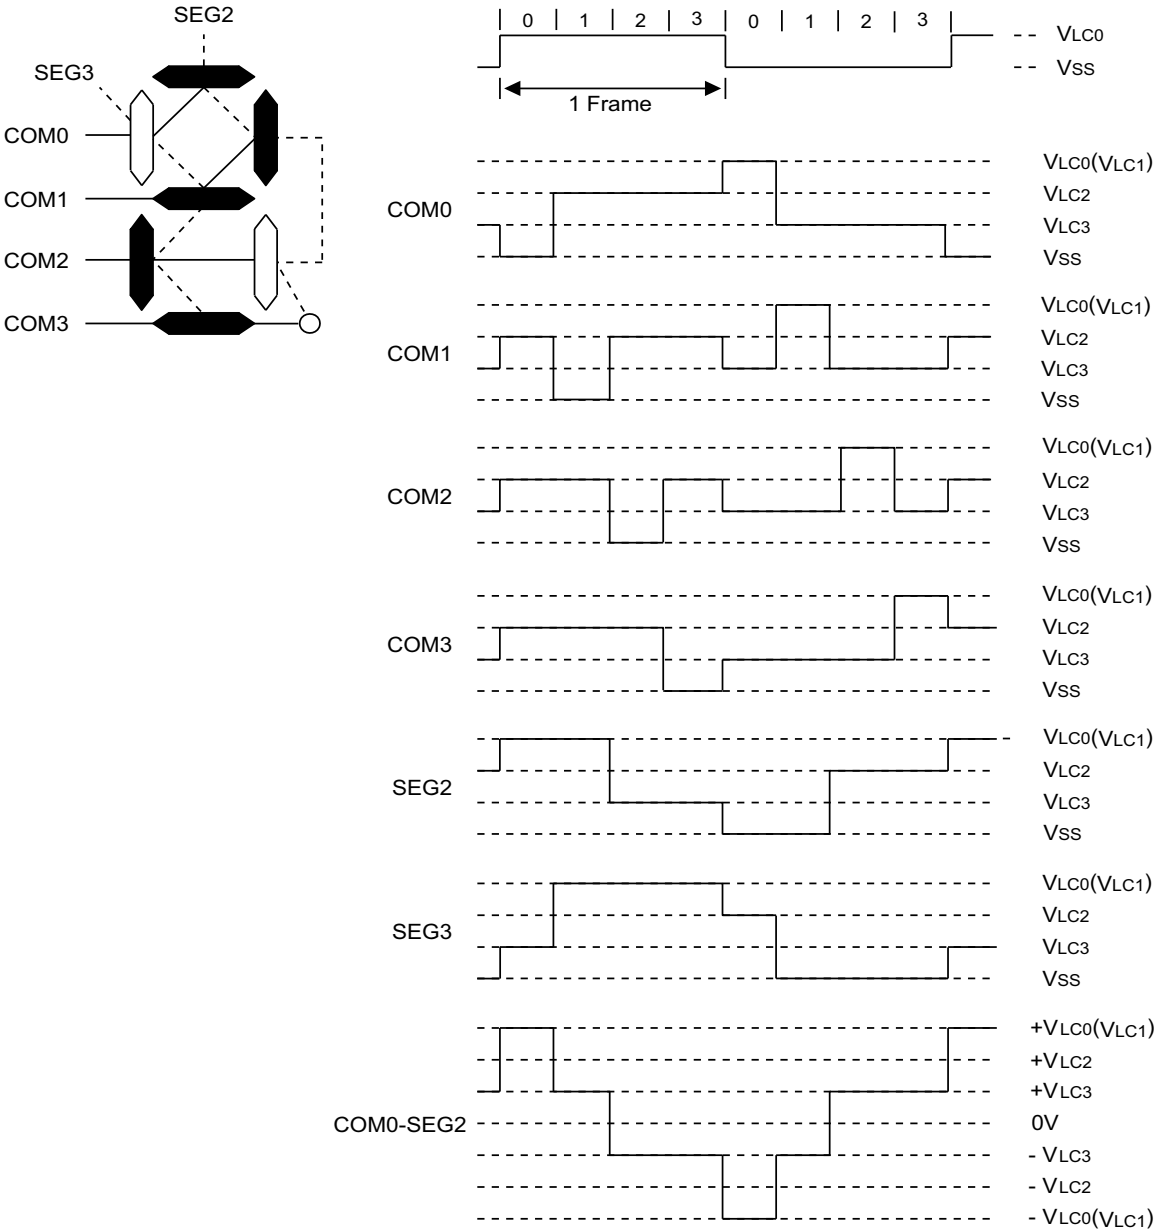

Figure 95. LCD Signal Waveforms: 1/4 Duty, 1/3 Bias
► **Note:** In Figure 95, $V_{LC0} = V_{LC1}$.